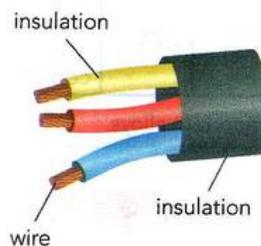

Figure 14.17: Some domestic electric cable.
- 8 Electrical wiring requires use of a good conductor and insulation. Figure 14.17 shows the end of some cabling.